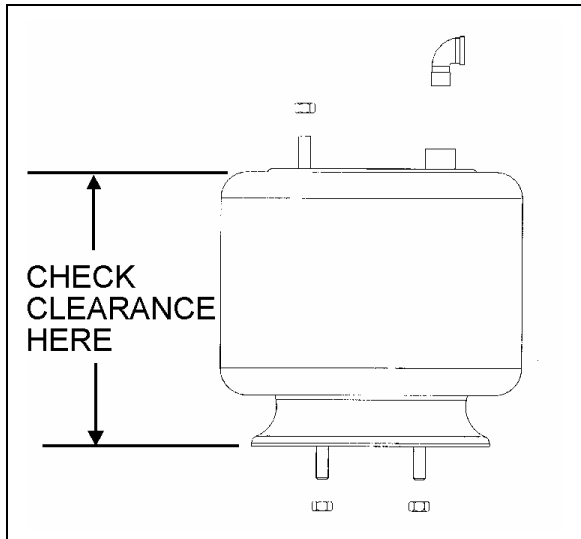

FIGURE 30: TYPICAL AIR SPRING CLEARANCE 16058
The flow of pressurized air from the accessory air tank to the air springs is controlled by three height control valves. The two rear valves are mounted to the subframe and connected to the rear axles through an arm and link connection. The front valve is mounted to the subframe and connected to the front air tank support (Fig. 30). These connections allow the valves to apportion air pressure in the springs to the vehicle load, maintaining normal ride height.
**Note:** The measurement should be taken from underneath the upper air spring support on subframe to top of the lower air spring support on axle (refer to figure 30 for more details). If adjustment is required, begin with the drive axle.